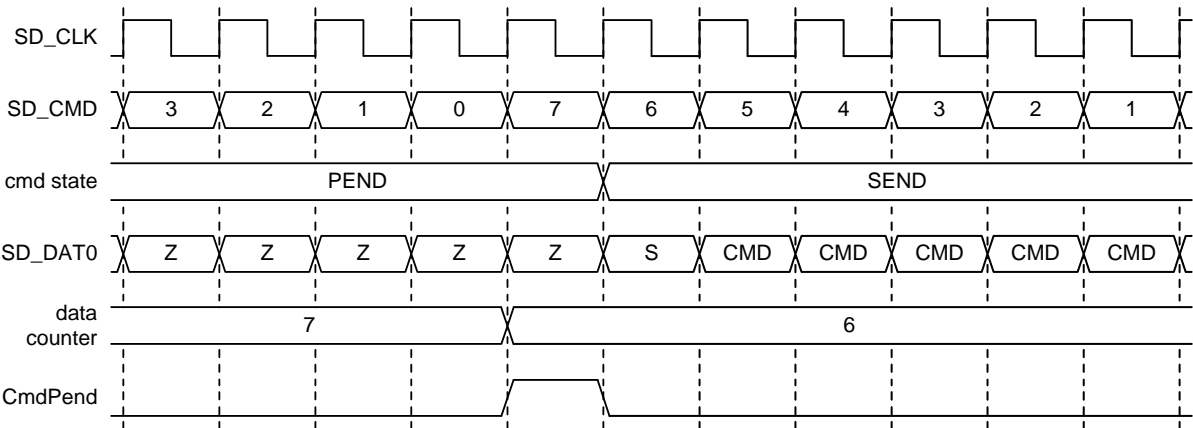

Fig 67. Pending command start
- To start transferring a pending command (see Figure 67). This is used to send the stop command for a stream data transfer.